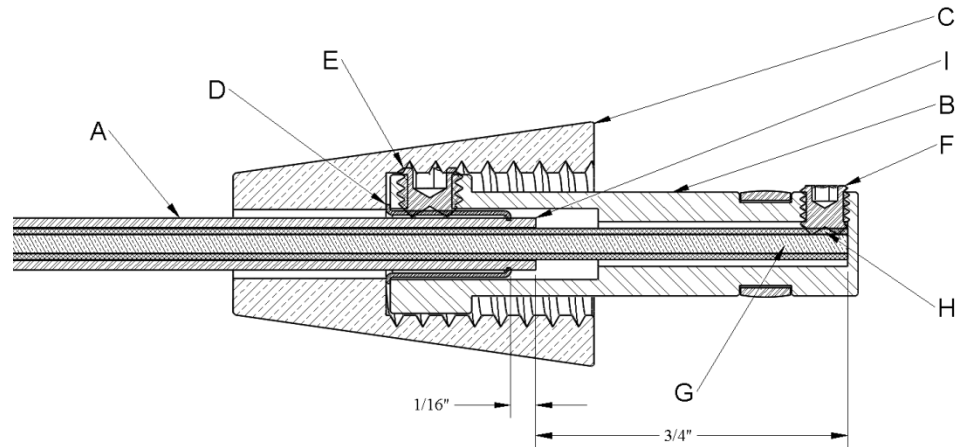

Figure 1 - Coaxial Cable and Connector Assembled
To Install as part of a Track Lighting System (Figure 1)
(Figure 1)
1. The outer braided shield (I) of the coaxial cable (A) is stripped back 3/4" as shown in Figure 1.
2. The M3 Set Screw (F) is tightened until “Tight”, when the 1.5MM Allen Wrench starts to flex.
3. The M4 Set Screw (E) is tightened inward until it no longer causes an interference with the Conical Nipple (C). It will begin to crush the Strain Relief Tube (D).